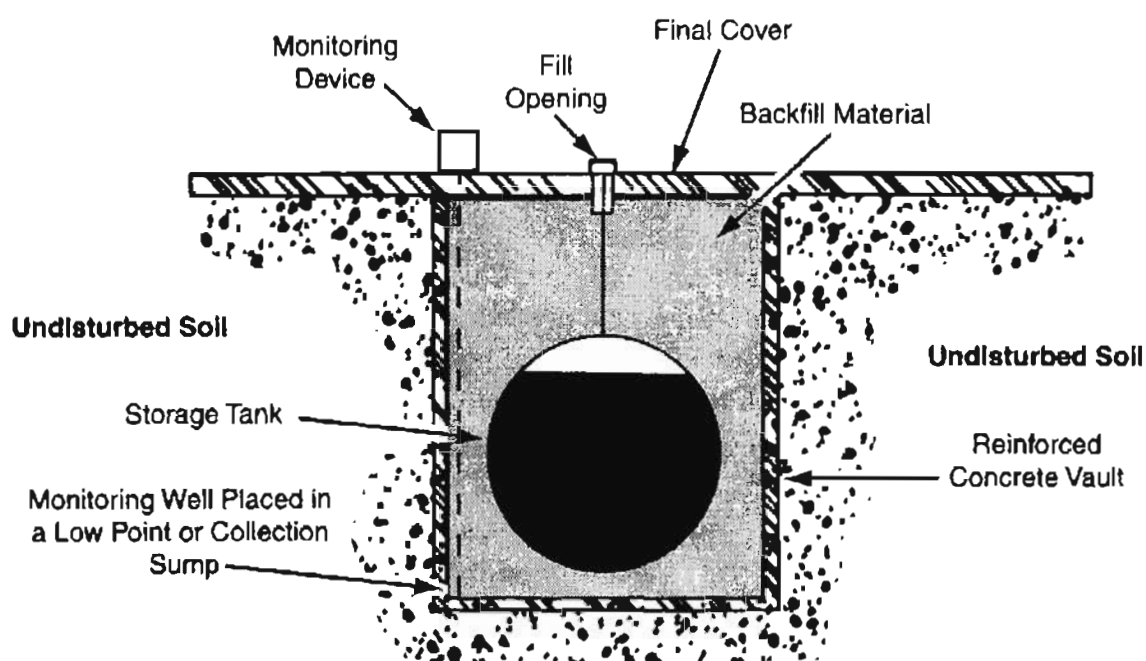

Figure P2.20
***2.20** In fully vaulted storage systems (see Figure P2.20) the primary container is installed in a completely sealed reinforced concrete vault of monolithic construction. Leak detection is normally achieved by the installation of monitoring wells or sensors in the backfill area. These vaults must be constructed by pouring the floor and walls as continuous structural elements. Chemical resistant coatings on interior surfaces and water barrier coatings on exterior surfaces are required.